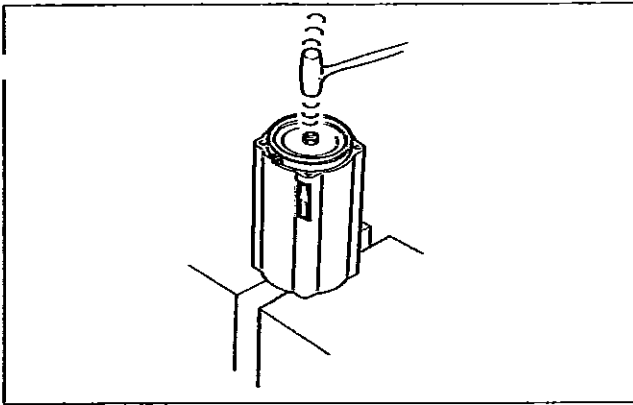

Fig. 13. Placing the piston in the cylinder
- Hammer or press the piston into the cylinder through the tie ring. Note the indicator arrow direction. See Fig. 13.
- Install new O-rings (19). Replace cylinder end and install cylinder with piston. Note the location of the air supply port: it must correspond to the exhaust air port in the cylinder base. Tighten screws (31); the torque is given in table 1.